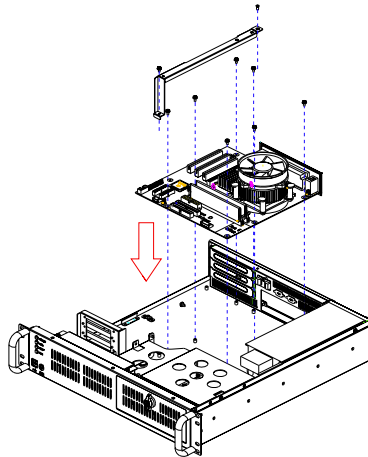

Figure 2.4: Installing a motherboard
3. Attach the motherboard I/O shielding onto the rear plate first. Then fasten the motherboard onto the chassis. (*see Figure 2.4*)